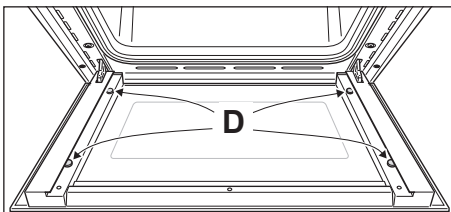

Fig. 6.23
IMPORTANT: It is advisable, while removing the glass, to keep pressed in position the four rubber pads "D" (fig. 6.23), by a finger, to avoid breakage or slippage of the rubber pads themselves.
- Check that the four rubber pads are in place ("D" in fig. 6.23).